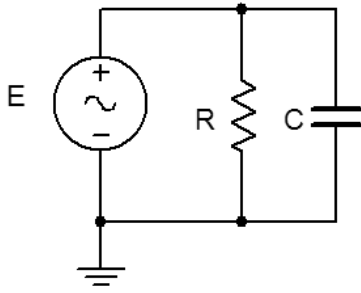

Figure 7.1
1. Using Figure 7.1 with a 10 V p-p 10 kHz source,  $R=1\text{ k}\Omega$ , and  $C=10\text{ nF}$ , determine the theoretical capacitive reactance and circuit impedance, and record the results in Table 7.1 (the experimental portion of this table will be filled out in step 6). Using the current divider rule, compute the resistor and capacitor currents and record them in Table 7.2.
2. Build the circuit of Figure 7.1 using  $R=1\text{ k}\Omega$ , and  $C=10\text{ nF}$ . A common method to measure current using the oscilloscope is to place a small *current sense resistor* in line with the current of interest. If the resistor is much smaller than the surrounding reactances it will have a minimal effect on the current. Because the voltage and current of the resistor are always in phase with each other, the relative phase of the current in question must be the same as that of the sensing resistor's voltage. Each of the three circuit currents will be measured separately and with respect to the source in order to determine relative phase. To measure the total current, place a  $10\ \Omega$  resistor between ground and the bottom connection of the parallel components. Set the generator to a 10 V p-p sine wave at 10 kHz. Make sure that the *Bandwidth Limit* of the oscilloscope is engaged for both channels. This will reduce the signal noise and make for more accurate readings. Also, consider using waveform averaging, particularly to clean up signals derived via the *Math* function.
3. In general, how would the phasor diagram of Figure 7.1 change if the frequency was raised?